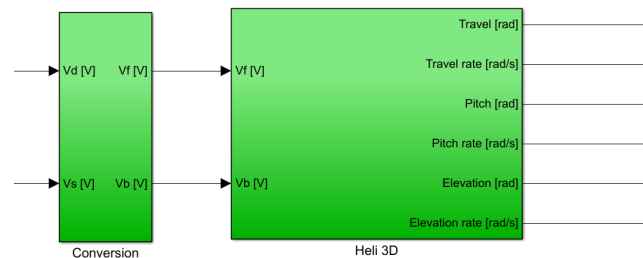

Figure 1.4: Voltage signals entering helicopter block.
- No power from one or both of the rotors. Check that you have voltage signals entering the helicopter block, initially named "Heli 3D", see Fig. 1.4. If the signals are connected the error is most likely a loose, broken or disconnected power cable. Contact the teaching assistant. Do not try to repair this yourself.